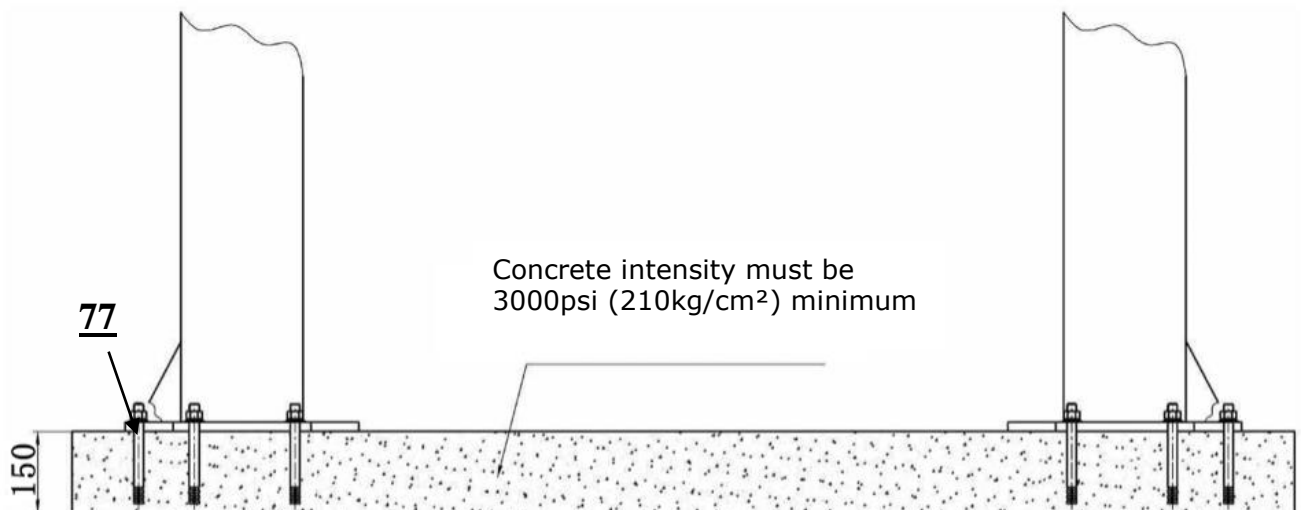

Fig. 5
D. SPECIFICATIONS OF CONCRETE (See Fig. 5).